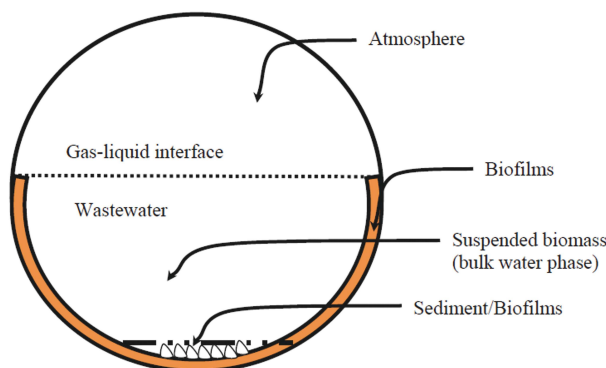

Figure 1: The environment in the sewer line.
Figure 1 (prior page) illustrates the environment in the sewer line, which is simplified as the bulk water phase, the biofilm phase, the biofilm/sediment phase, and the sewer atmosphere. Biochemical processes take place in each phase of the sewer. The sewer atmosphere is the only source of the oxygen (O2) that dissolves into the wastewater in the sewer except the dissolved oxygen (DO) coming in with the influent wastewater. The hydrogen sulfide gas (H2S) and other odor causing volatile organic compounds (VOCs) emit from the bulk liquid phase to the sewer atmosphere based on the respective Henry's constant for each compound and the characteristics of the wastewater. The biochemical transformations in the bulk liquid phase, the biofilm phase or in the biofilm/sediment phase of the sewer network are initiated by microorganisms (mainly dominated by the large population